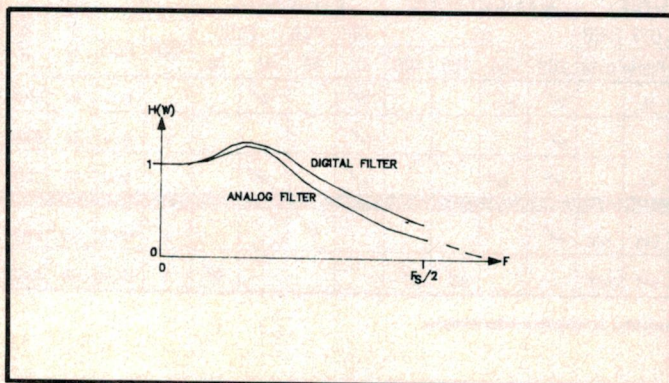

Fig.5: amplitude distortion caused by the impulse invariant transform.
(1) The impulse invariant transform gives the digital filter an identical impulse response to the analog filter. The frequency response of the resulting digital filter has an amplitude distortion which is illustrated in Fig.5. This distortion can be reduced by using sampling rates which are high compared to the cut-off frequency. This transform is not suitable for high-pass filters.
(2) The matched z transform maps the s-plane poles and zeros into the z-plane (see "Z Transforms, Transfer Functions, Poles and Zeros"). This transform has similar limitations to the impulse invariant transform.